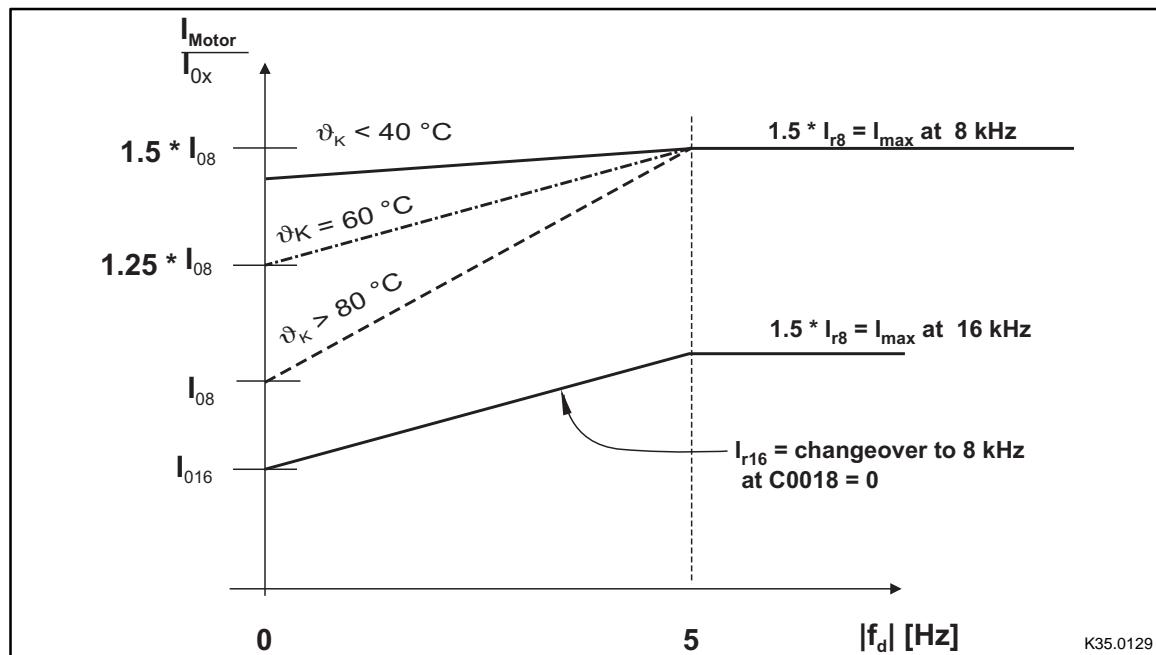

Fig. 6-2
- The current is derated, depending on the heat sink temperature (see Fig. 6-2).
- Below the threshold, the controller operates with 16 kHz (optimum noise). The function of the current derating follows the characteristic "I_{max} 16 kHz" (see Fig. 6-2).
- If a higher torque is required from the machine for example for acceleration, the controller automatically switches to 8 kHz (optimum power). The function of the current derating follows the characteristic "I_{max} 8 kHz" (see Fig. 6-2).